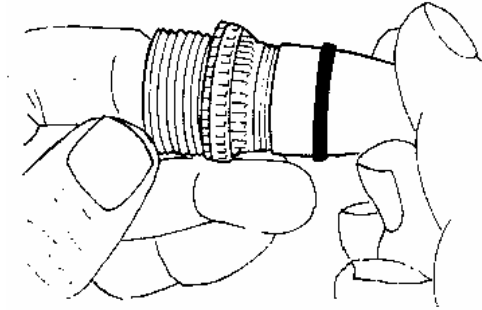

Figure 5. O-Ring Installation
- c. Slide O-ring over bullet (Figure 5) and into groove of fitting. Make sure O-ring is not twisted and is properly seated in groove.